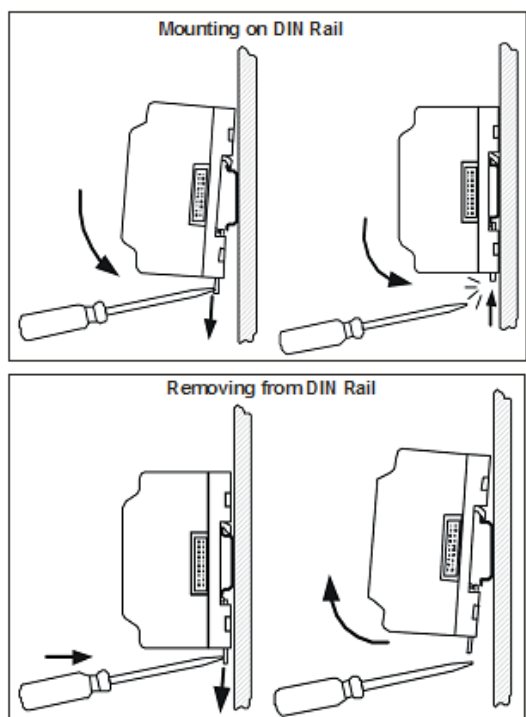

Figure 3: DIN Rail Mounting
2. Position the FX20/FX60 on the rail, then tilt it to hook the DIN rail tabs over one edge of the DIN rail (see Figure 3).